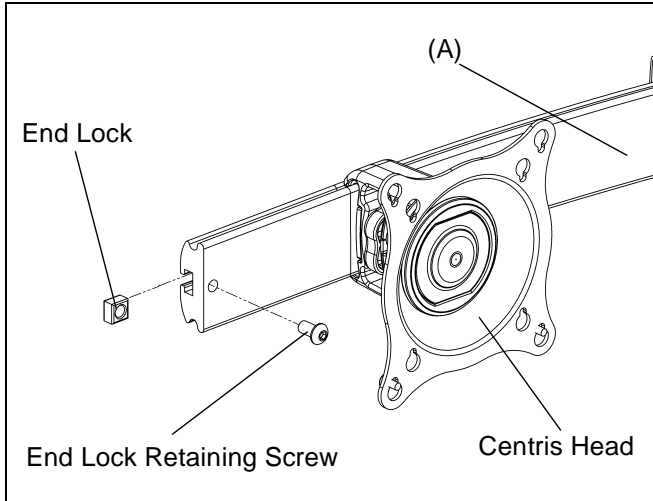

Figure 10
8. Reinstall end locks into mounting rail using the 5/32" hex key (R). (See Figure 10)